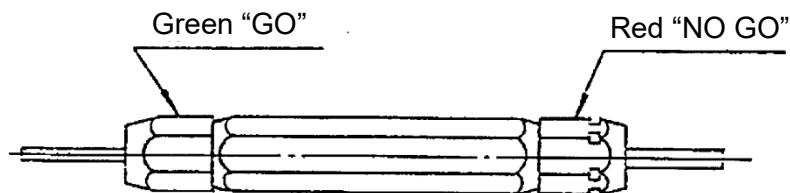

Figure 8. Inspection Pin Gauge
- (b) While the handle is being tightened, check the gap of jaw (virtual diameter) using the inspection pin gauge of M22520/3-01 (See Figure 8). Verify "GO" side pin (green) passes the gap and "NO GO" side pin (red) does not. Perform this inspection every time before performing crimping to ensure proper crimping results.